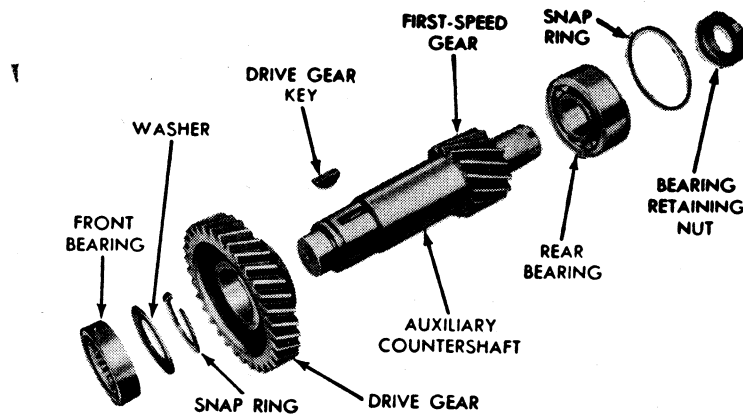

Fig. 12 Auxiliary section countershaft and related parts
- Press countershaft drive gear on shaft, Fig. 12.